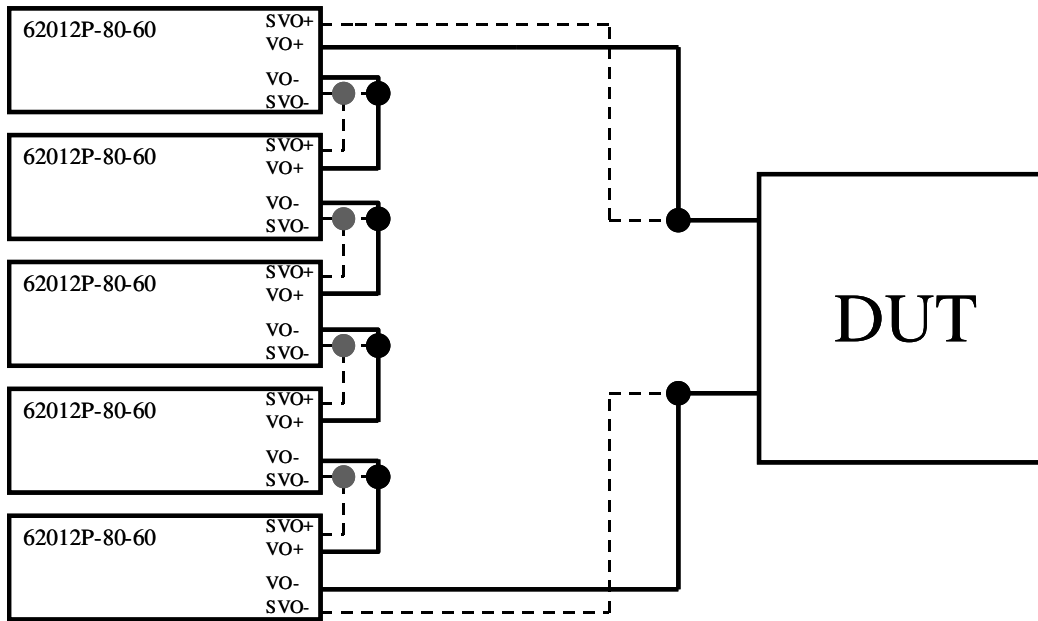

Figure 3-28
- Figure 3-28 is the series connection.